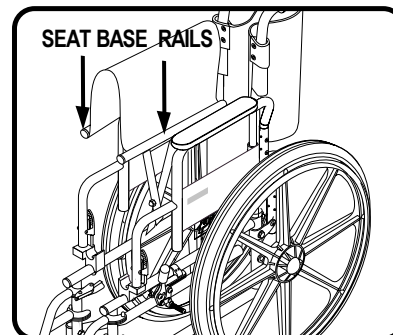

Figure 3. Unfolding the Pride Stylus
2. Place the palm of your hands on each seat base rail. See figure 3.